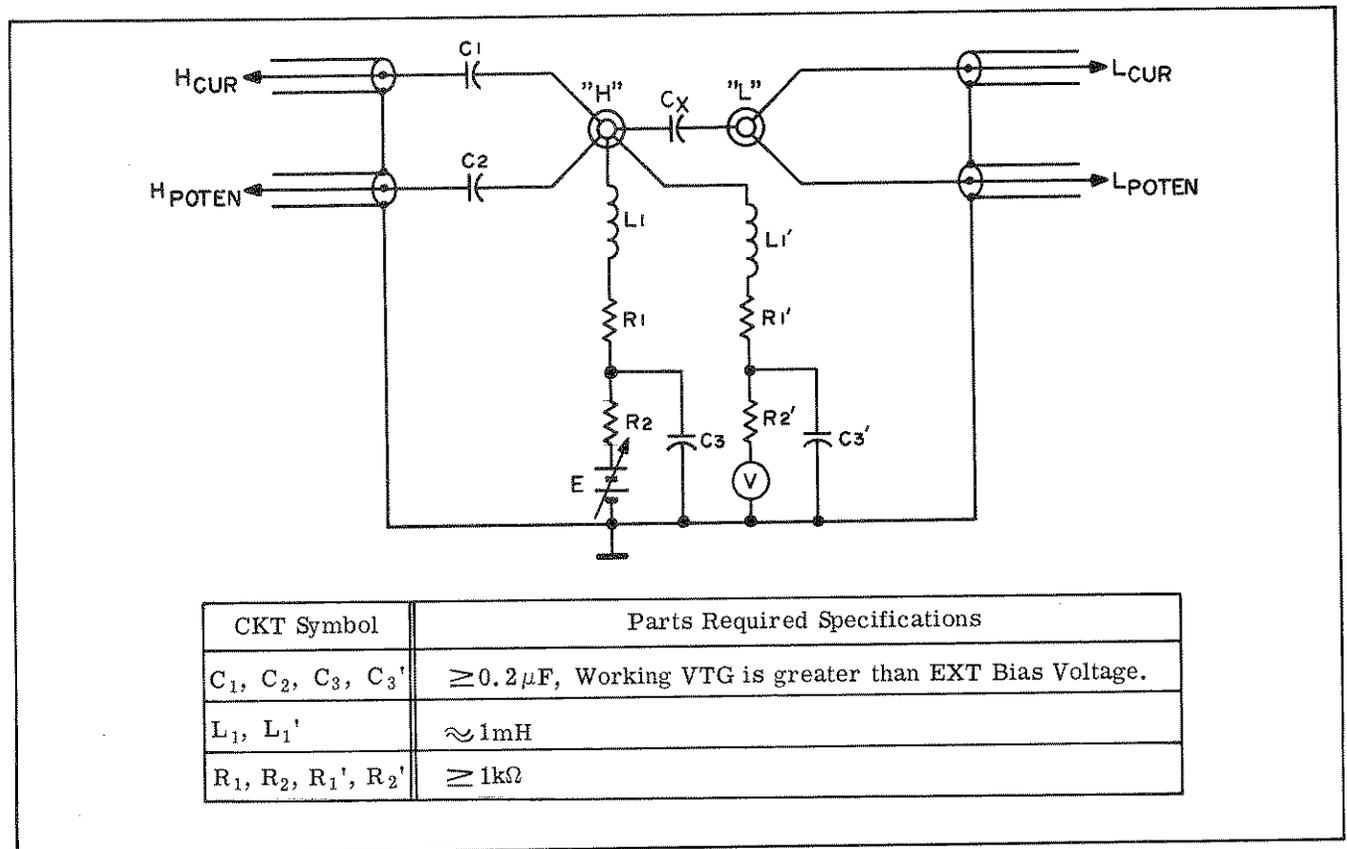

Figure 3-10. External Bias Circuit (E ≥ 200V).
- b. To use bias voltages greater than 200 volts an external circuit is used. Figure 3-10 shows such a recommended circuit. The bias voltage is limited to maximum working voltages of the unknown capacitor C_x and the blocking capacitors C_1 and C_2 .
- c. To monitor the voltage another filter section consisting of L_1' , R_1' , R_2' and C_3' is added as shown in Figure 3-10 for connection voltmeter.